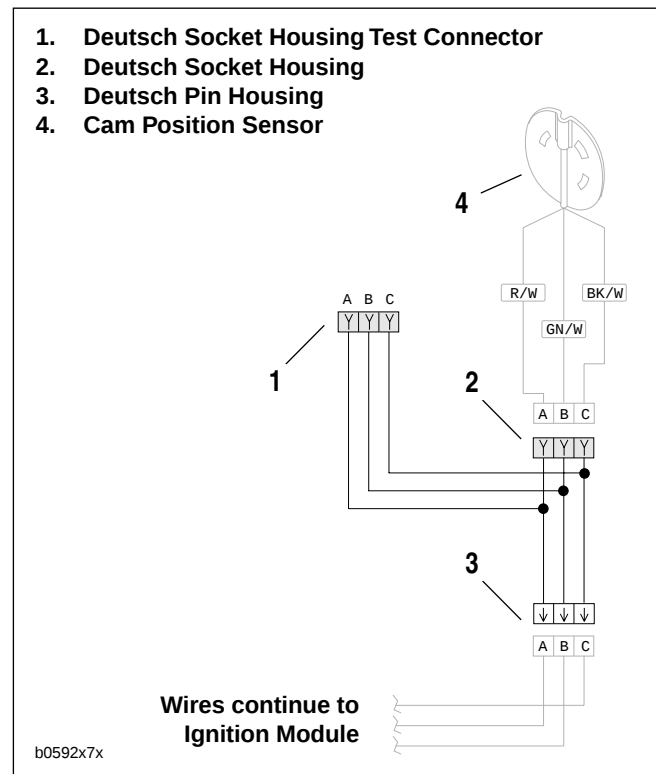

Figure 7-71. Testing Tachometer
1. See Figure 7-71. Connect the speedometer tester to the cam position sensor Deutsch socket housing.